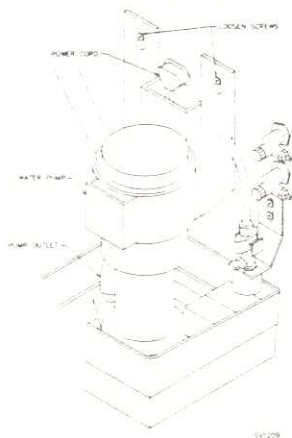

Figure 12. WATER PUMP REMOVAL
3. Check the dump valve's clear plastic outlet drain hose (Figure 12), for leakage while the ice machine is in the freeze mode.